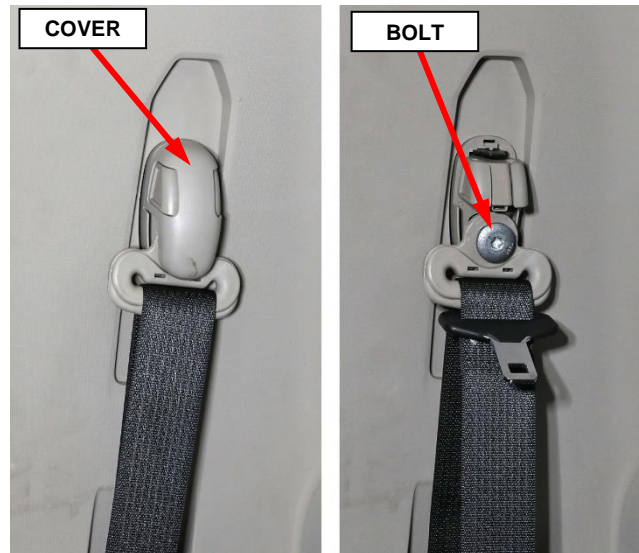

Figure 26 – Seat Belt Turning Loop
11. On the B-pillar, separate the seatbelt turning loop cover then remove the turning loop bolt (Figure 26).
63. Using a **NEW** bolt and reusing the spacer washer, install the turning loop then tighten the bolt to 40 N·m (30 ft. lbs.) (Figure 26).
64. Install the seat belt turning loop cover (Figure 26).